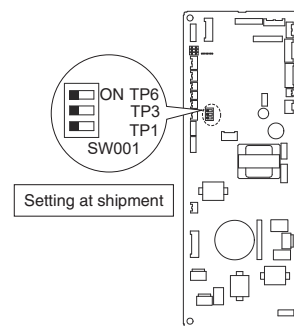

Fig. 7-1
- (1) Turn off the power breaker to halt the supply of electricity to the indoor unit Electronic Controller (Main).
- (2) Open the lid of the electrical component box and confirm the location where the Select switch on the indoor unit Electronic Controller (Main) is placed. (Fig. 7-1)
- (3) Set the On/Off switches in the Off position which are now set in the On position.